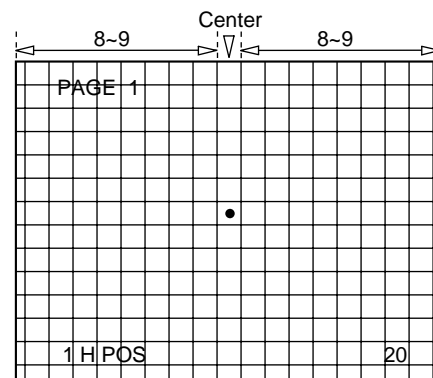

Fig.1-1
- Using the volume keys on the jig remote controller, adjust the dot mark in the centre of the crosshatch screen to the exact centre position allocating an equal number of squares on both left and right sides of the dot. (Fig. 1-1)